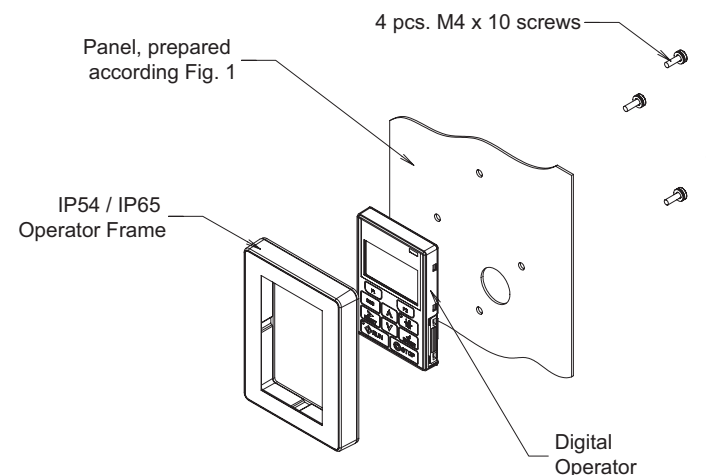

Figure 2 Mounting the Operator Frame
5. Insert the digital operator into the housing and position the assembly over the panel holes and fix from inside the panel using the fixings provided as shown in Figure 2. Tighten the screws in a cross-like pattern with a torque of 1.3 Nm.